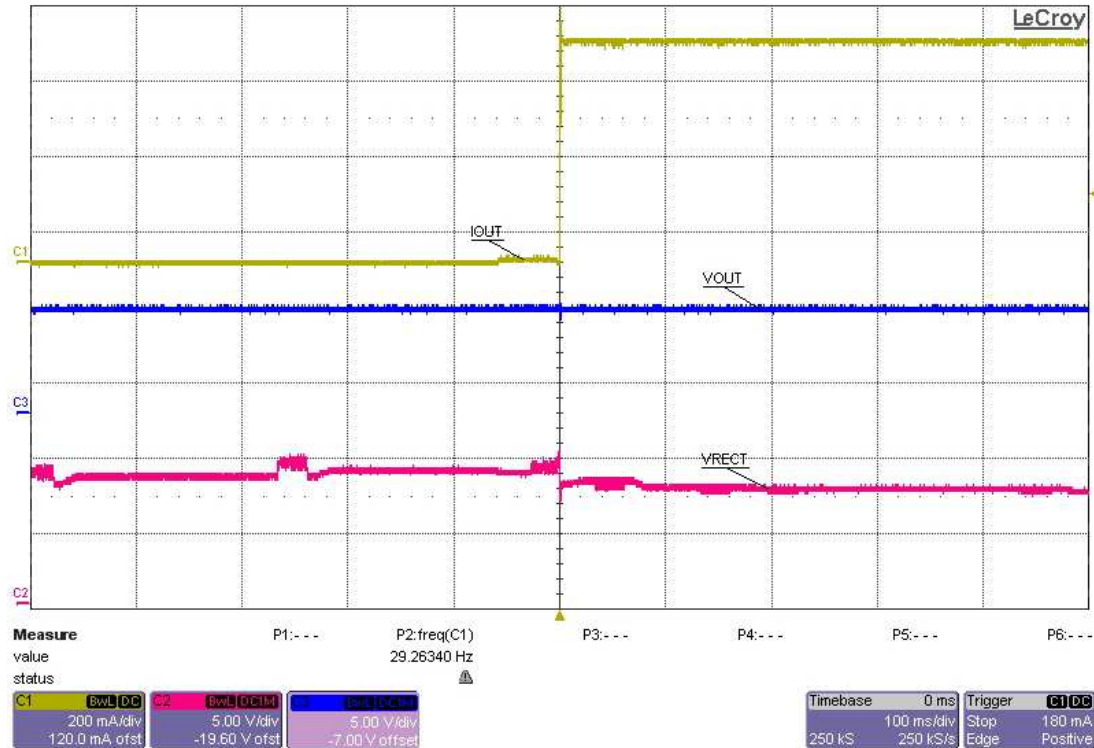

Figure 3. Load Step, 0 mA to 600 mA
- Monitor load current, rectifier voltage, and output voltage as shown in Figure 3.